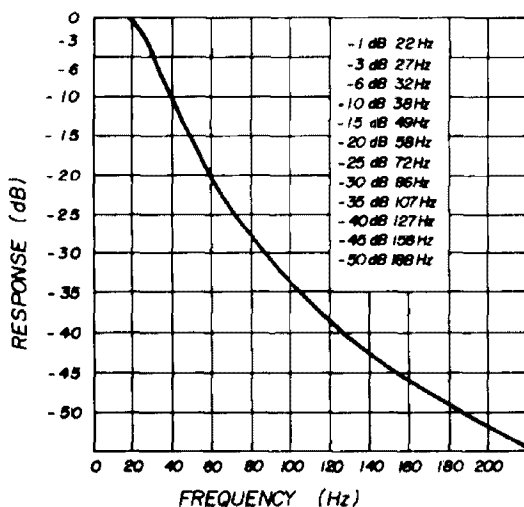

fig. 1. Bandpass curve for the low-pass active filter used in the ST-6.
27.3 Hz for 60 speed (45.45) Baud operation, and set up the criteria for testing such filters. The active lowpass filter in the TT/L was built with these features in mind. Fig. 1 shows the curve obtained with the ST-6. The observed "eye pattern" was ideal, indicating optimum cutoff for 60 wpm. The active filter is one that uses feedback circuits with amplification rather than passive components (inductors, etc.). This gives consistent uniformity from one unit to